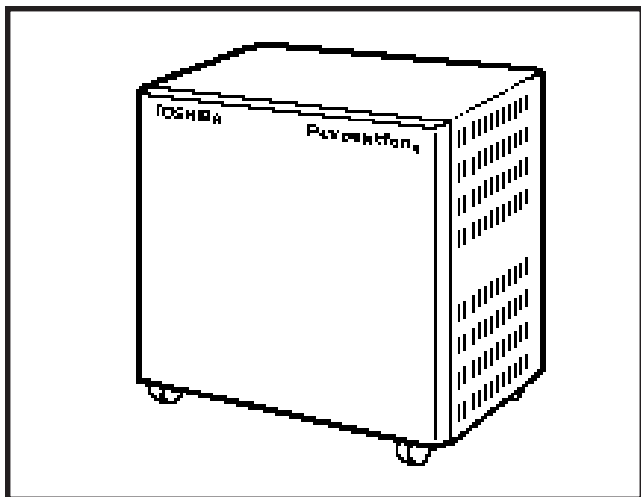

FIGURE 2-1—PERCEPTIONe BASIC CABINET
1.01 The basic equipment cabinet (NCEC-M) consists of a single, free-standing cabinet mounted on casters for easy movement. Once system installation has been completed and the cabinet has been positioned, the casters can be locked to prevent movement. The interior of the cabinet houses two shelves for printed circuit card installation. A separate area is provided for installation of the power supply and peak load battery. MDF connections are facilitated by amphenol connectors located on the rear of the cabinet (Figure 2-1).